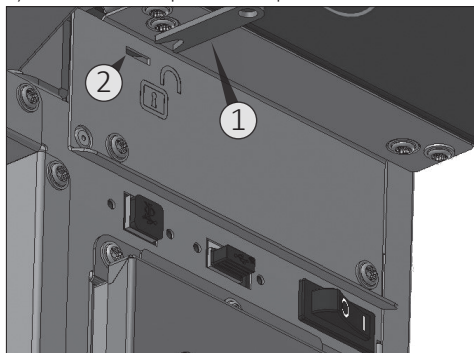

Fig. 12
- 2) Remove the rubber cap (2 Fig. 12);
- 3) Insert the emergency release key into the hole (1 Fig. 12).